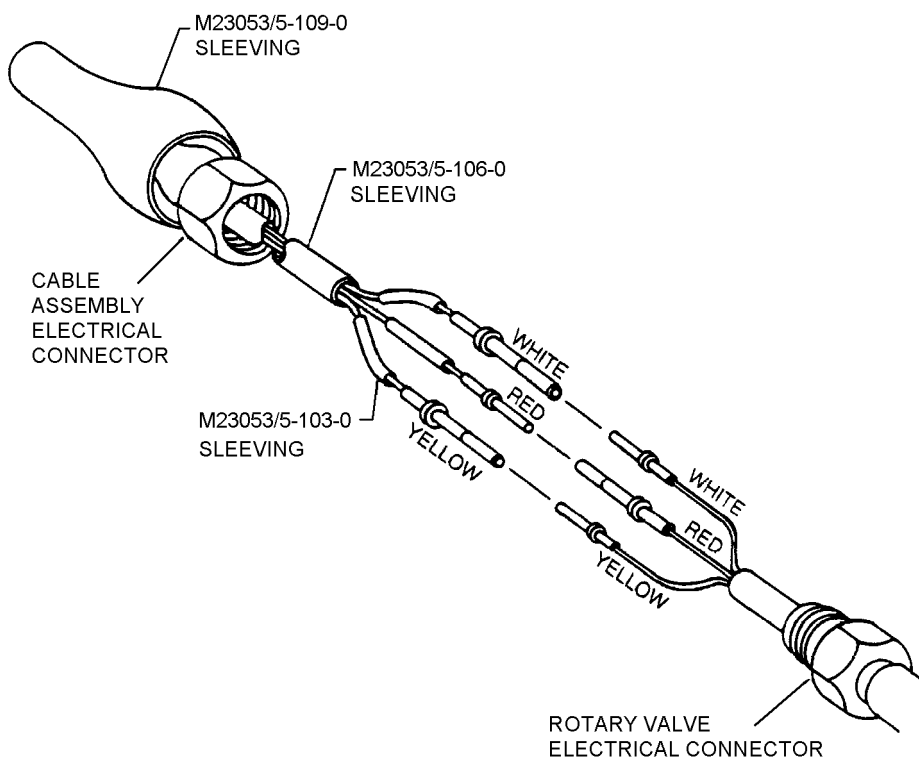

Figure 6-15. Wiring Connection for Cable Assembly Electrical Connector to Rotary Valve Electrical Connector
4. (Reference figure 6-15 for wiring connection.) Slide three insulation sleeves (P/N M23053/5-103-0) 2.0 to 2.5 inches long over three individual leads RED, WHT and YEL located at cable assembly electrical connector (5). Slide back from lead connectors until ready to heat shrink.
5. Slide insulation sleeving (P/N M23053/5-106-0) 1.7 to 2.25 inches long over all three leads RED, WHT and YEL located at cable assembly electrical connector (5). Slide back from lead connectors until ready to heat shrink.
6. Slide insulation sleeving (P/N M23053/5-109-0) 2.0 to 2.25 inches long over entire cable assembly electrical connector (5). Slide back from connector until ready to heat shrink.
7. Mate the three connectors on the RED (male), WHT (female), and YEL (female) wires of the cable assembly electrical connector (5) to the RED (female), WHT (male), and YEL (male) wire connectors of the rotary valve electrical connector (4).